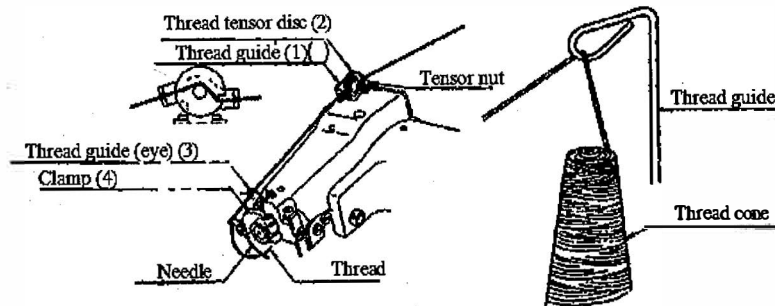
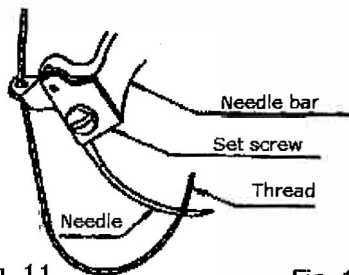

Fig 9
Fig. 11
C. In order to sew correctly on the machine, the thread should be run exactly as shown on Figure 9.
If you are using a thread tensioner, first you must thread the thread through the rear eye of the thread guide (1). Then lead the thread between the two tensioner discs (2), as per Figure 9. Thread the thread from the back of the front eye of the thread guide. Lead thread to the front of the machine, lead it from the top to the thread guide (3) and eye (4). Then make sure that the needle is at the extreme left position. Thread the thread from the bottom, through the needle's eye, as shown on Figure 11.